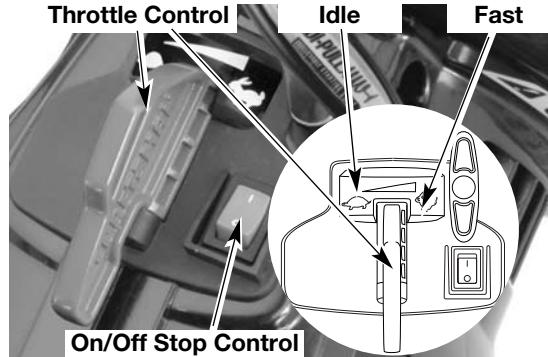
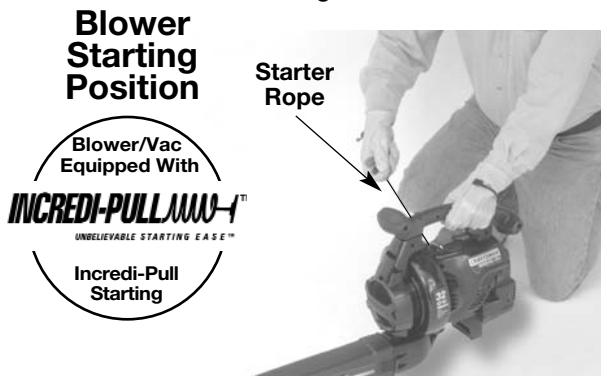
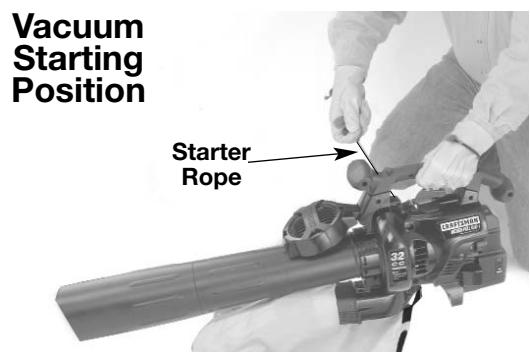

Fig. 9
Fig. 11
Fig. 12
WARNING: Avoid accidental starting. Make sure you are in the starting position when pulling the starter rope (Fig. 11 and 12). To avoid serious injury, the operator and unit must be in a stable position while starting.
4. Place the unit in the starting position (Fig. 11) as a blower, Fig. 12 as a vacuum). **Move the throttle control to the idle position** (Idle) (Fig. 9). This is especially important during cold starting.